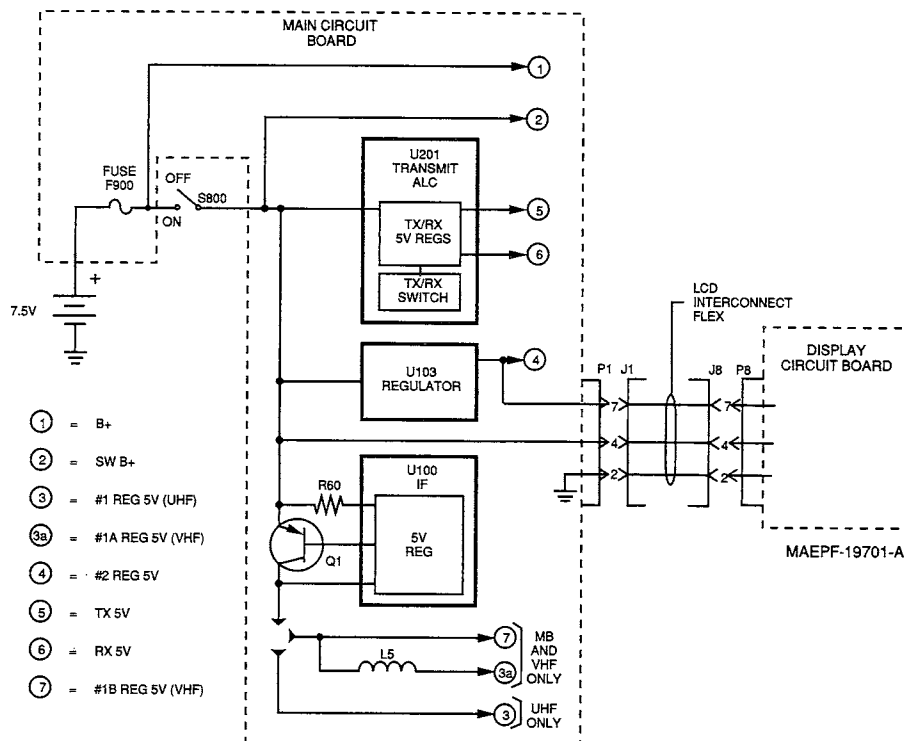

Figure 2. DC Voltage Distribution Block Diagram
a. DC Voltage Distribution (See Figure 2)